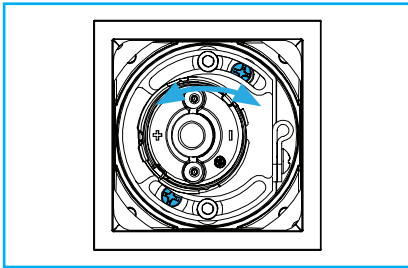
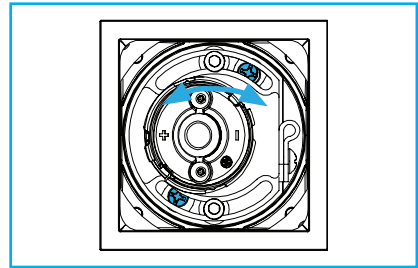

Fig.49
Fig.50
C. Loosen the screws shown in “Fig.49” for fixed or “Fig.50” for wallwash using supplied #1 Philips screwdriver and lower LED engine through aperture.
C. Loosen the screws shown in “Fig.49” for fixed or “Fig.50” for wallwash using supplied 7/64” Allen wrench and lower LED engine through aperture.